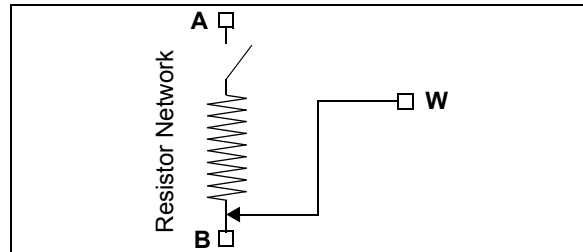

FIGURE 5-11: Resistor Network Shutdown State ($R0HW = 0$).
- The P0W terminal is simultaneously connected to the P0B terminal (see Figure 5-11)